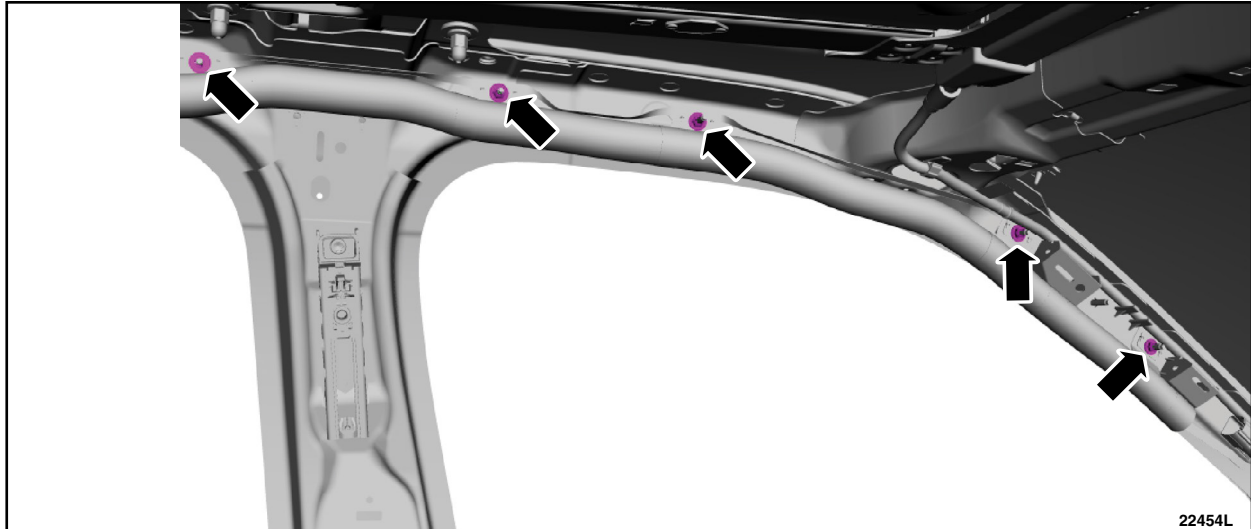

FIGURE 32
34. Install the side curtain airbag nuts. See Figure 32.